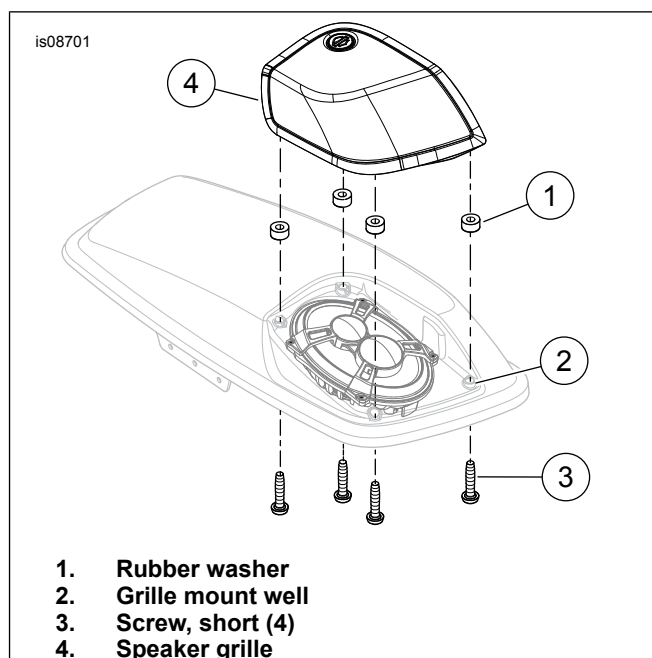

Figure 2. Grille Installation
5. See Figure 2. Place rubber washers (1) into the grille mount well (2).
6. Place the speaker grille (4) into position over the speaker face.
7. Secure with the four short screws (3). Alternately tighten the screws. Tighten.